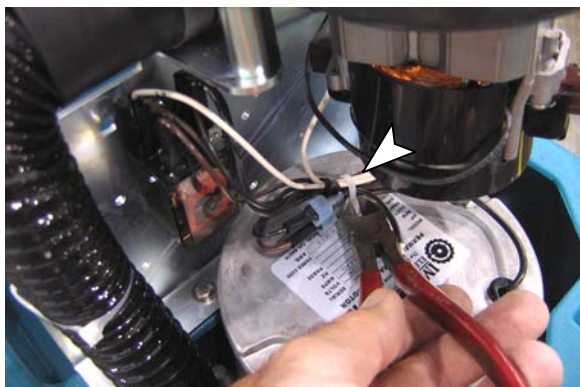

Fig. 6
7. Cut wire tie that holds existing wires together above the brush motor (Fig. 6).